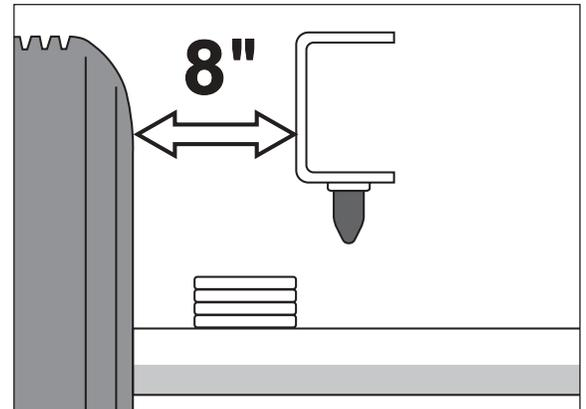

Figure 3
3. Measure the distance between the frame and the tire. This kit requires a minimum of 8" of clearance for a fully inflated air spring (Figure 3).